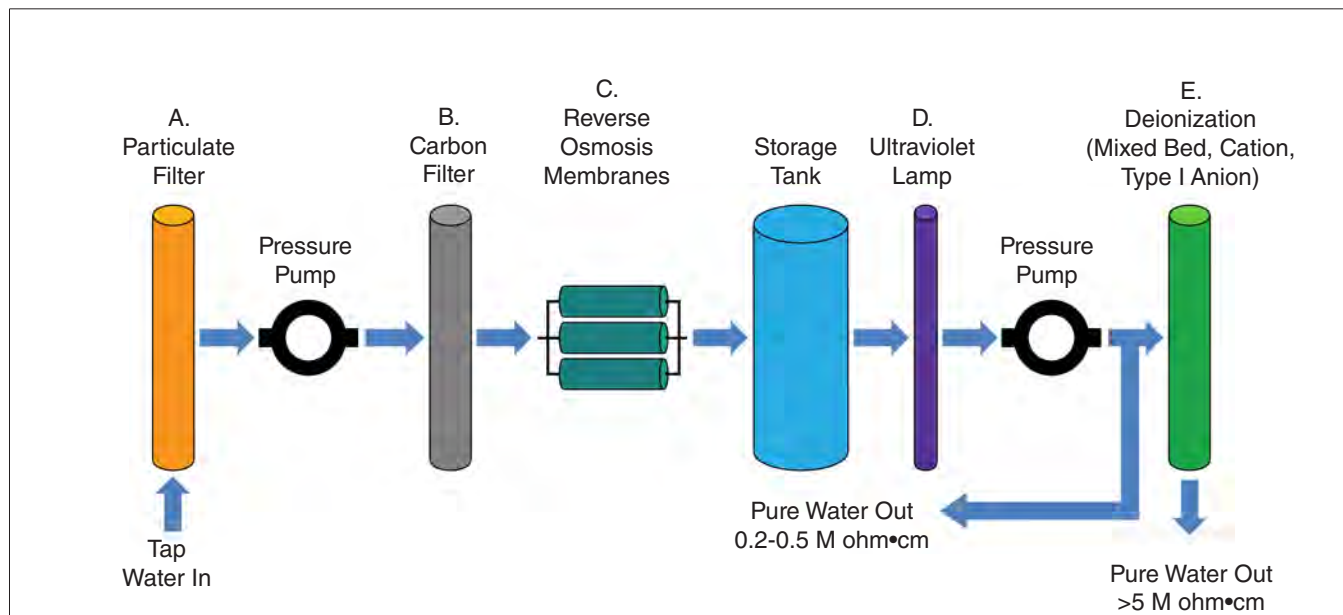

Figure 5.9a: Reverse Osmosis / Deionized Water System.
- Figure 5.9a below shows an effective Reverse Osmosis / Deionized Water System with Anion Type I Resin for spray water silica removal.